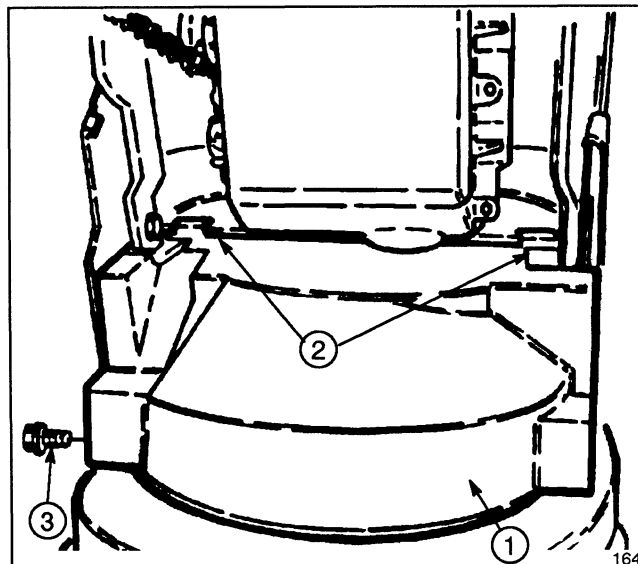

Figure 2
4. Secure auger housing to engine frame with (6) 5/16–18x3/4" lg. flange head capscrews.
7. Mount lower belt cover to underside of auger housing and engine frame with (2) 1/4–20x1/2" lg. flange head capscrews (Fig. 2). Make sure belt cover mounting tabs are positioned to rear of engine frame member.